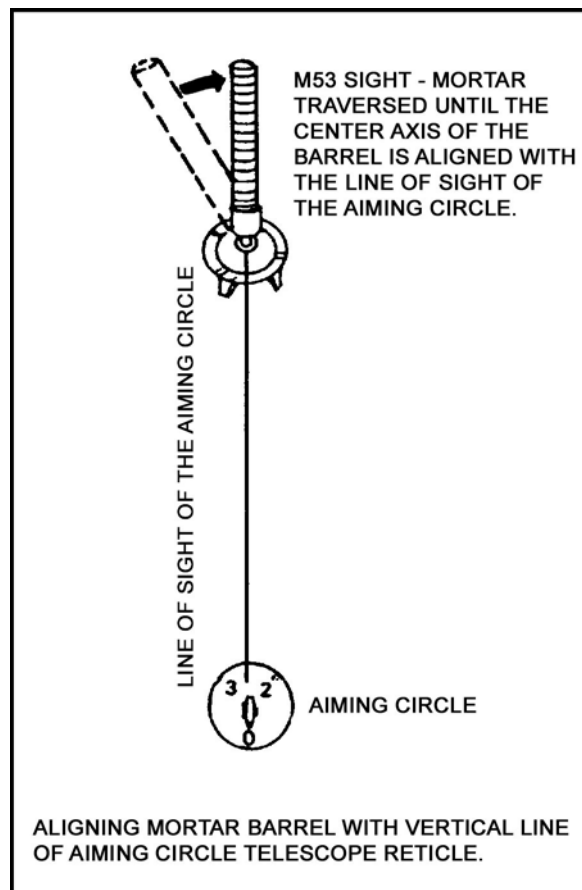

Figure 1. Align Barrel Axis with Telescope Reticle Vertical Crossline
- c. The gunner traverses and cross-levels the mortar until the center axis of the barrel from the baseplug to the muzzle is aligned with the vertical crossline of the aiming circle telescope reticle (Figure 1).